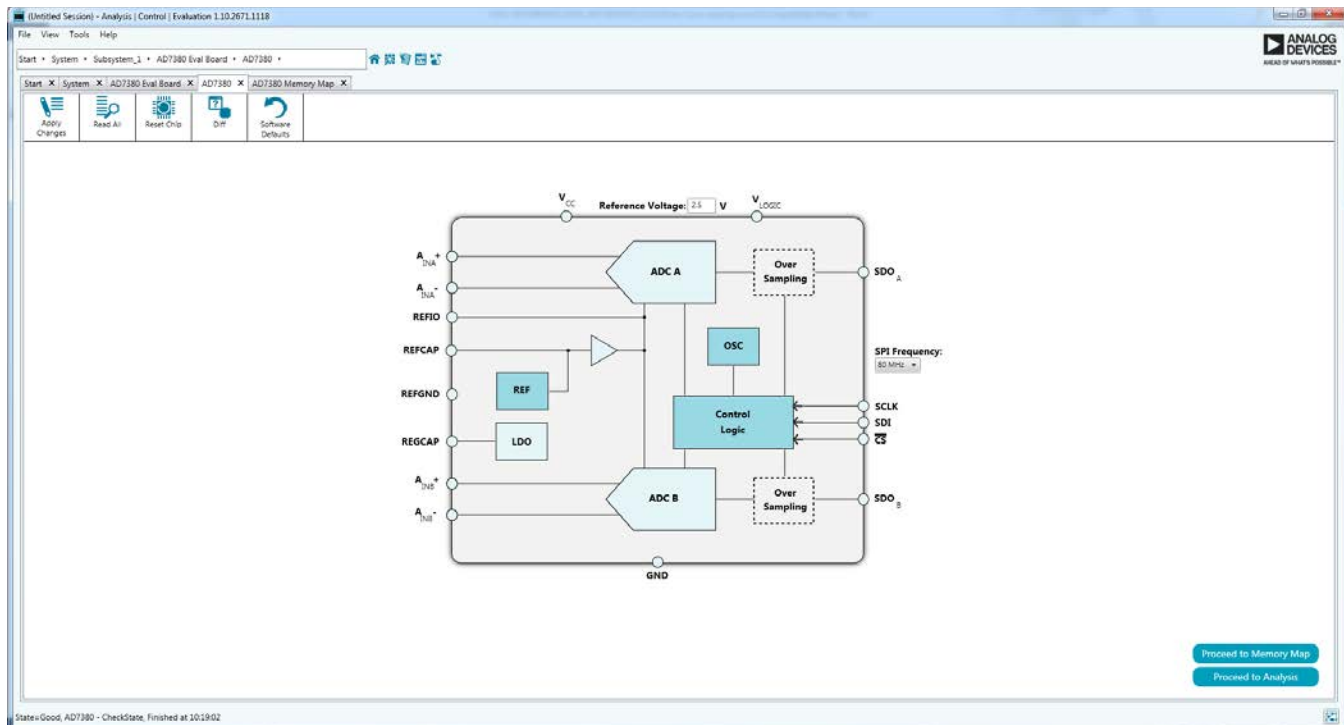

Figure 14. Chip View
4. Double click the **AD7380** chip icon to access the window shown in Figure 14.